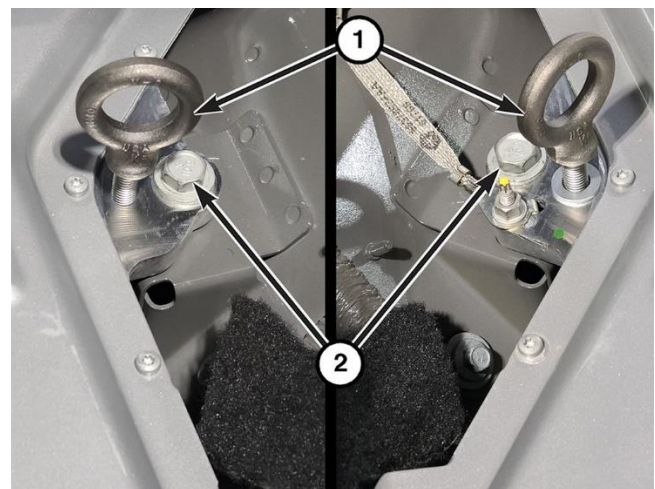

Figure 34 – Eyebolt Installation
- 58. Thread the other two Eyebolt, 10mm 2035203080 (1) into the threaded holes next to the HV battery pack mounting bolt holes (2) on the rear side of the HV battery pack (Figure 34).